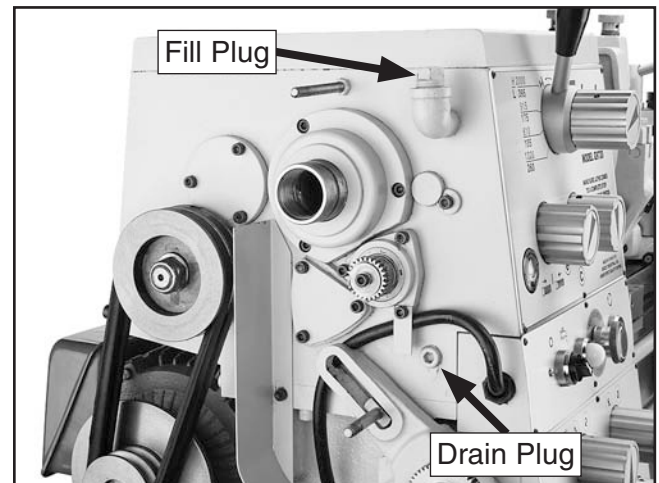

Figure 102. Headstock fill and drain plugs.
To add oil to the headstock, you will need to remove the headstock left cover to access the headstock fill plug (see **Figure 102**), then use a 15mm wrench to remove the plug.
4. Remove the middle change gears to fully expose the headstock drain plug, as shown in **Figure 102**.